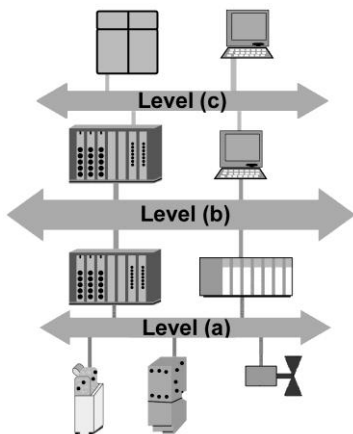

Figure 14-12 Industrial network for question 46.
46. For the industrial network of Figure 14-12, identify the level of functionality for (a) _____, (b) _____, and (c) _____. 46a. _____